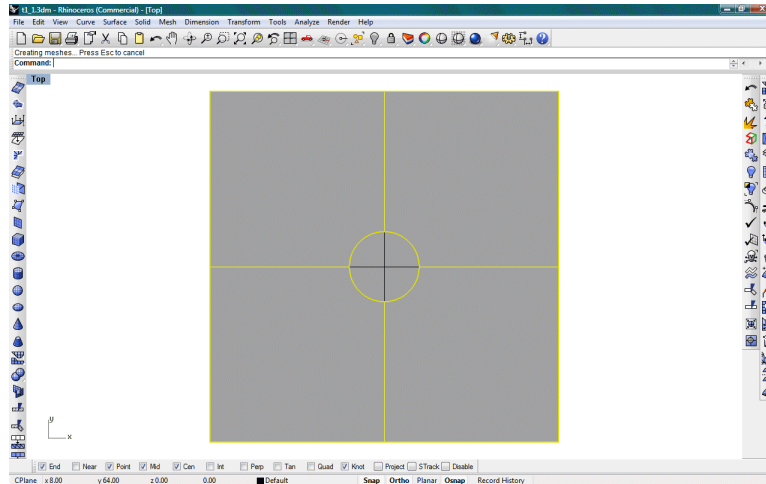

Figure 50: The two surfaces resulting from the split with the outer surface highlighted
28. Select the menu item **Edit | Split** and click on the surface of square, then hit **<ENTER>**. Click on the curve representing the circle and press **<ENTER>** to split the square into two parts. Figure 50 shows the two surfaces with the outer surface highlighted.